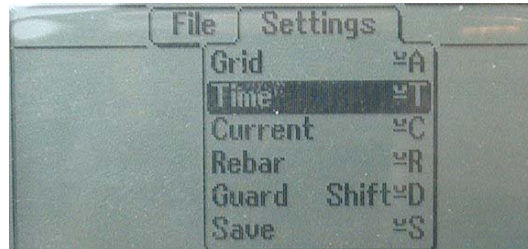

Fig 8. Settings display, Time
- a. Press the *Menu* key. Fig. 8.